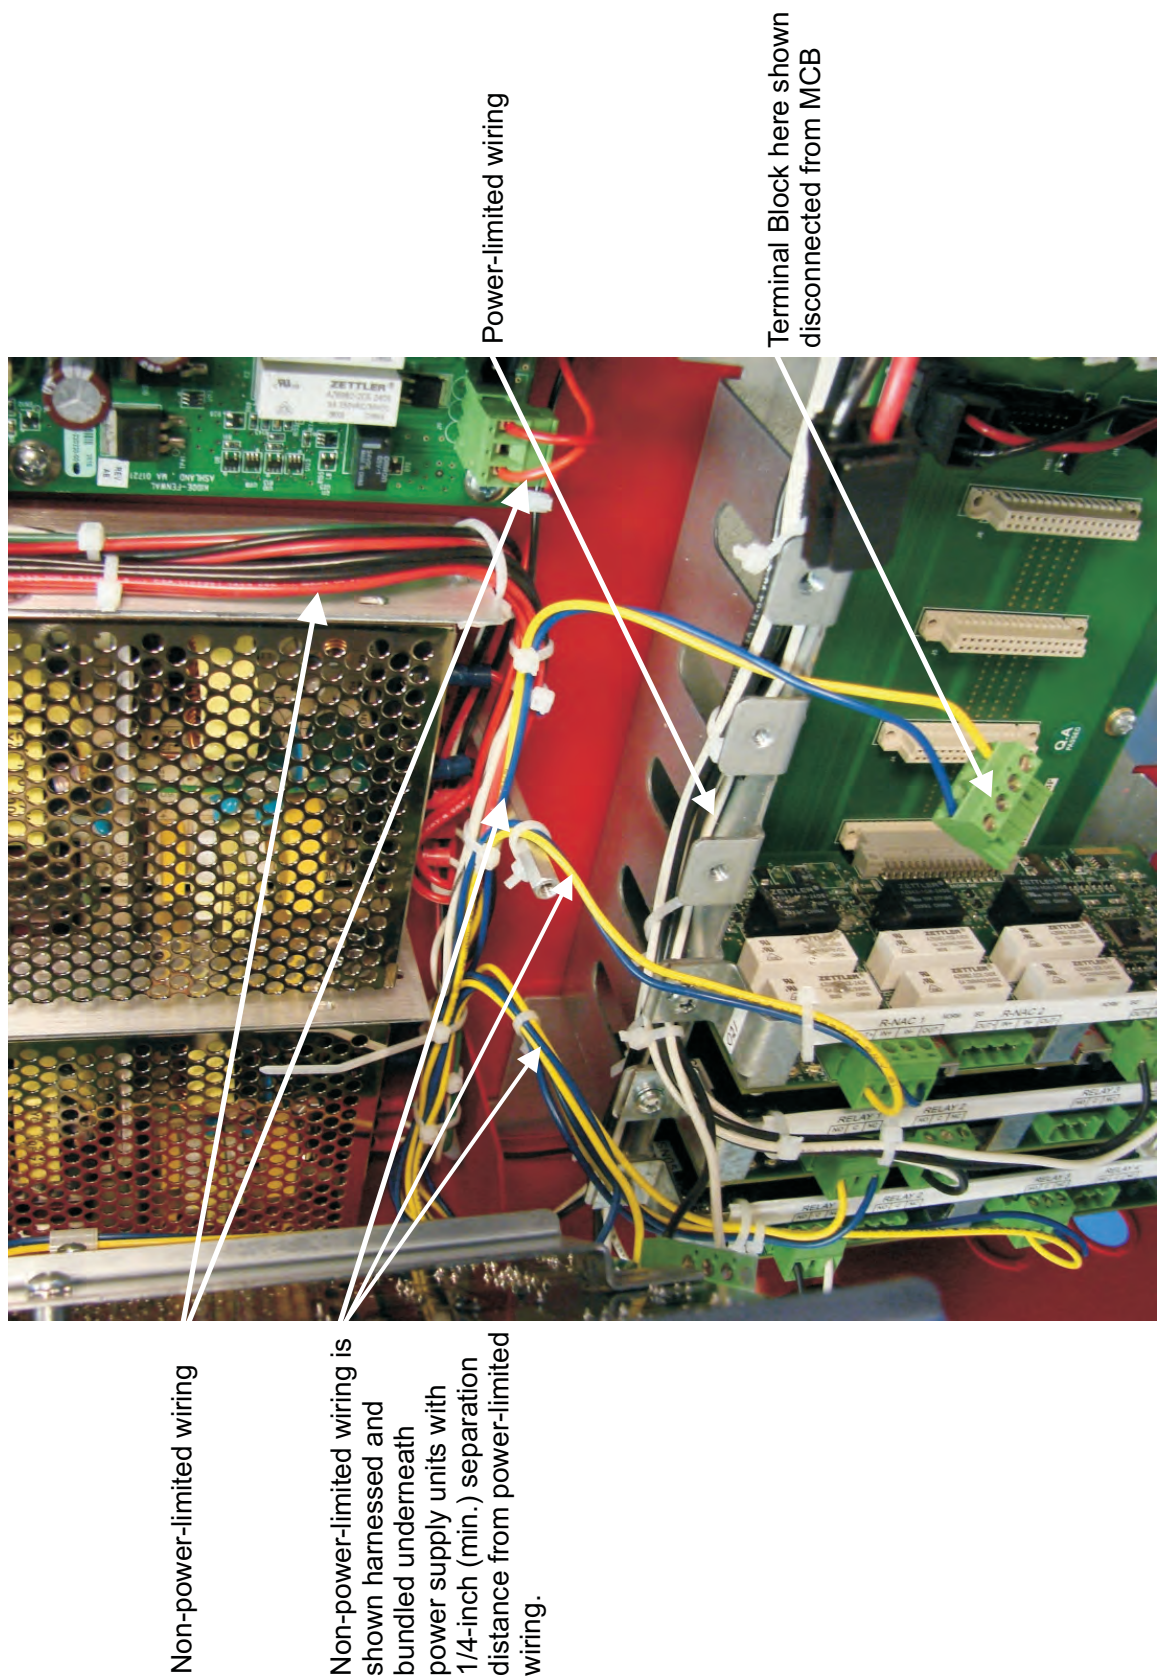

Figure E-6. An Example of a Typical FenwalNET 8000-ML Wiring Scenario - MCB Opened
**Note:** Figure E-6 illustrates a typical wiring scenario where 3 expansion cards are included in the system with power-limited wiring (Black/White wires) and non-power-limited wiring (Blue/Yellow wires) properly spaced. Using standard wiring tools (such as P-clamps and tie-wraps), in conjunction with the enclosure standoffs, brackets and card cage frame, power-limited and non-power-limited types of circuits can easily be connected and harnessed to meet the 1/4-inch separation requirement.